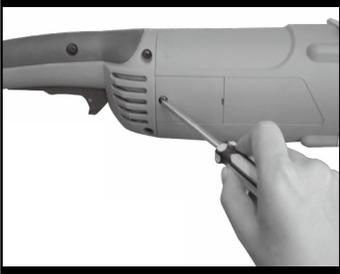

Fig. 7-2
12. TO REPLACE THE BRUSHES(See Fig.7-2)